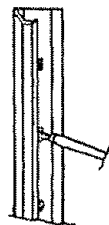

FIGURE 6
5. REMOVE THE HANDLE. Unscrew the seven exposed handle mounting screws. See Figure 6.